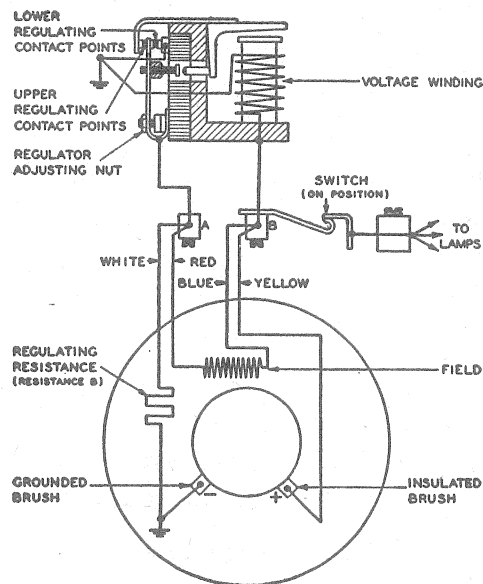

FIGURE 7
The direction in which the generator must rotate is indicated by an arrow on the generator frame. Figure 7, illustrates the proper connections for anti-clockwise rotation of these units when viewed from the drive end.
The regulator unit (32) is of rugged construction, having a high contact pressure and powerful magnet which eliminates the influence of engine vibrations on its performance. The following is a general explanation of the functioning of the regulator, with the switch in the 'ON' position (see Figure 7)..